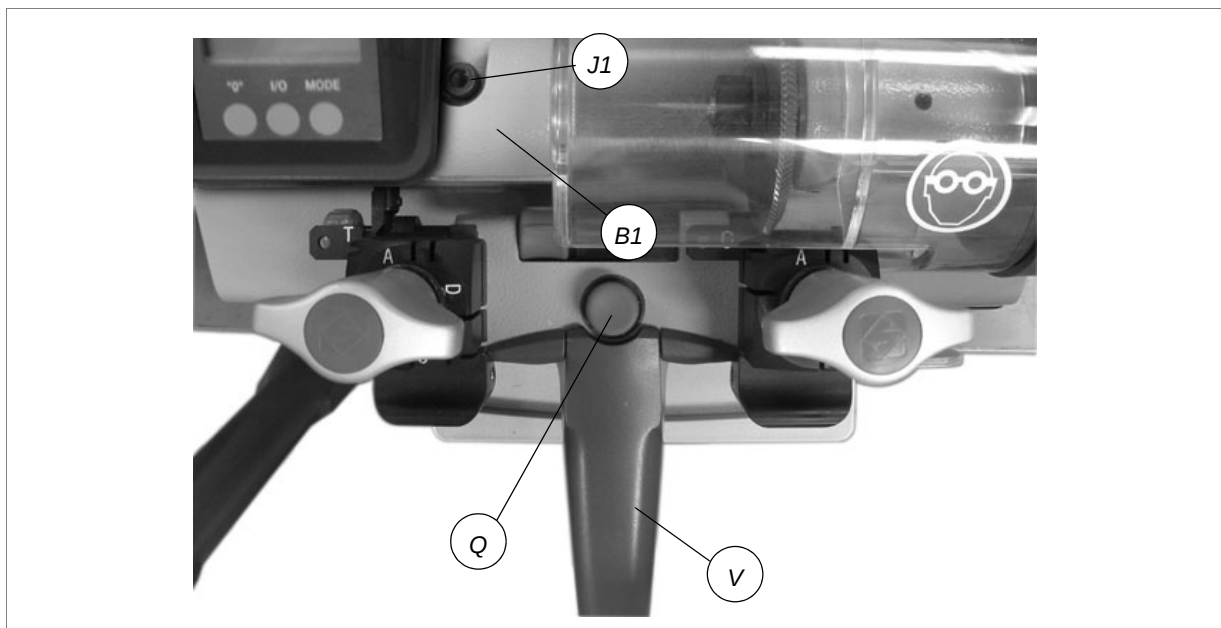
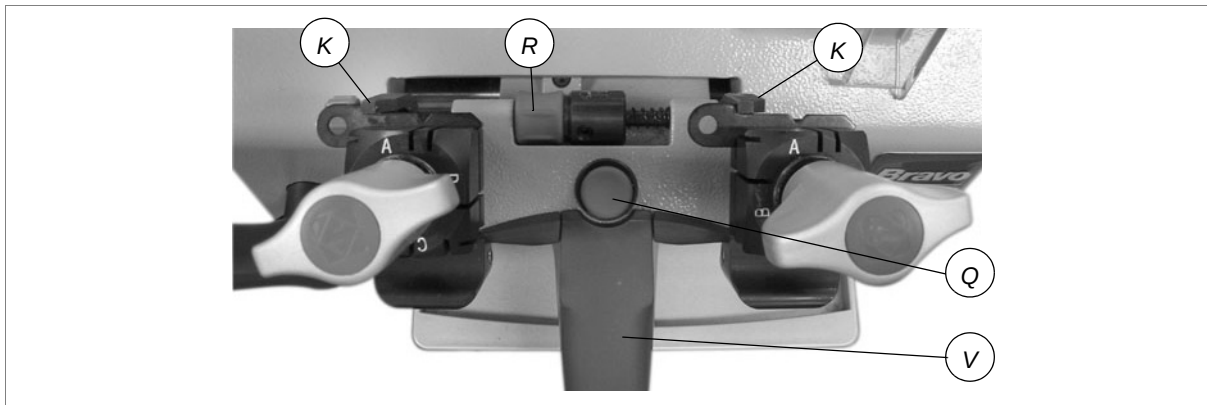

Fig. 16
Fig. 17
- 3) Release the carriage by lowering the knob (V) and pressing the push button (Q) right down (fig.16).
- a) loosen the screw (J1) to move the tracer point (fig.16).
- 1) Turn off the master switch (C) to operate safely and prevent activation of the cutting tool.
- 2) Place the adjusting key (provided) in the clamps (fig.17) with the notch facing the cutting tool and tracer point and proceed as follows:
- a) ensure that the keys adhere to the clamps and that the callipers (K) are in full contact with the stops.
- b) to take the callipers into contact with the keys, rotate the drum (R) towards you (away from you to return to the ideal position)
- 3) Release the carriage by lowering the knob (V) and pressing the push button (Q) right down (fig.17).
- 3) Release the carriage by lowering the knob (V) and pressing the push button (Q) right down (fig. 17, page 17).
- 4) Move the adjusting key so that the notch comes into contact with the cutting tool (A) and tracer point (B).
- a) loosen the screw (J1) to move the tracer point (fig. 16, page 16).
- 8) Lower the carriage by means of the handle (V) (it will engage automatically).